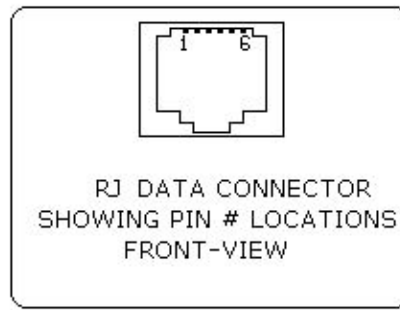

FIGURE 11: RJ DATA CONNECTOR
- Six connections are provided from the Serial Interface to the host computer. Table 3, below, lists the Serial Interface signals and pin outs on the RJ connector. The connector pin locations are shown in Figure 11.
- A minimum of two (2) pin connections are required for operation, RXD – pin 3 and Common – pin 1.